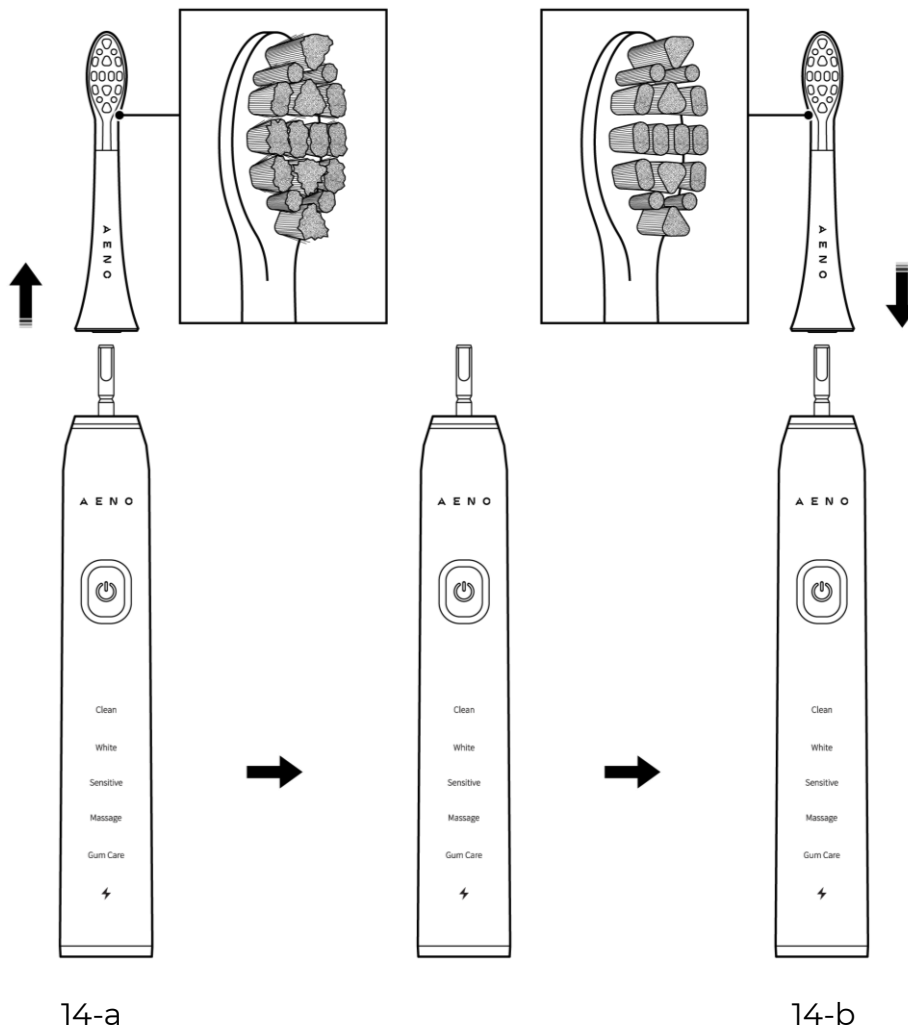

Figure 14 – Replacing Brush Heads
1. Pull the worn-out brush head up to remove it (see Figure 14-a). Do not use excessive force.
3. Without using excessive force, place the new brush head on the handle of the toothbrush as far as it will go (see Figure 14-b).